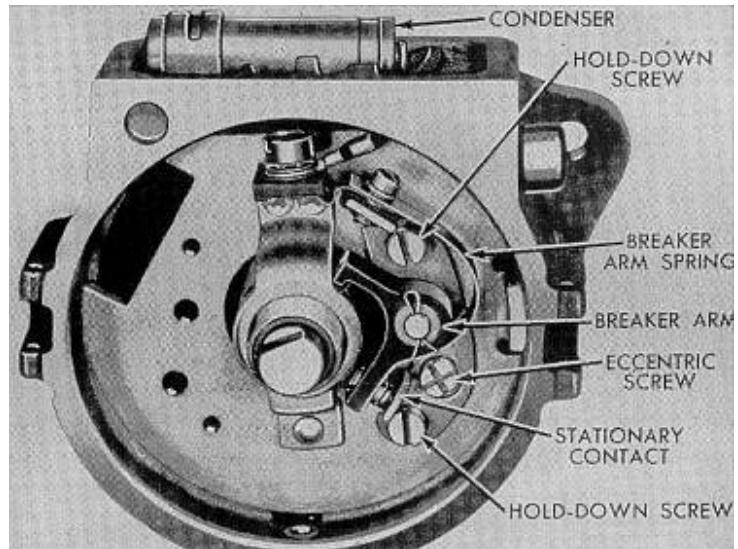
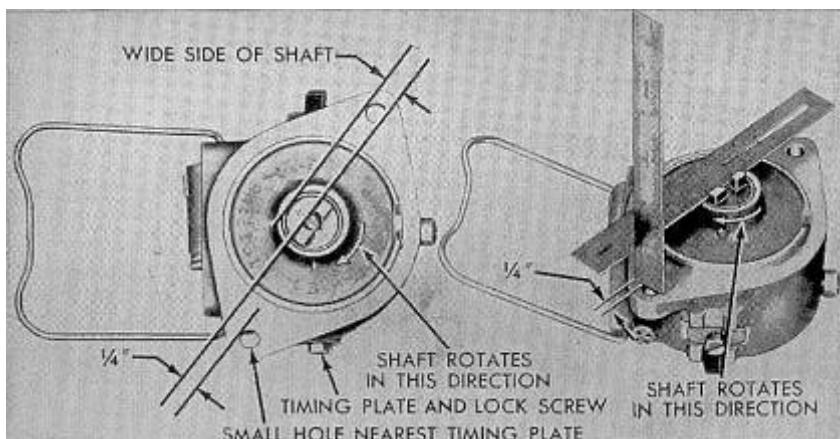

Fig. F044 - Distributor breaker contacts of Ford 8N12100 distributor used on models 2N, 9N, and 8N prior to tractor serial 263844.
Fig. F045 - Distributor basic timing adjustment on models 2N-9N and 8N prior to tractor serial 263844.
54. On 2N, 9N and 8N tractors prior to serial 263844 the Ford 9N12100 battery ignition distributor is mounted on the front face of the timing gear cover directly in line with camshaft. Refer to Fig. F044. In these installations the front end of the camshaft is slotted to receive a mating tang on the drive end of the distributor shaft. Spark timing at speeds above idling is controlled by a centrifugal governor built into the distributor. Full automatic spark advance is 24 crankshaft degrees, 12 distributor degrees @ 2000 engine rpm. Recommended contact gap is .015 or a dwell of 35-38 degrees. The Ford 91A12300 condenser is of .29-.32 mfd capacity and should have an insulation resistance of
55. TIMING TO ENGINE. Adjust breaker contacts to .015 gap by loosening the two hold-down screws (Fig. F044) and turning the eccentric screw. Place a scale against the tang on the wide side of the distributor shaft as shown in Fig. F045 then rotate the shaft until the scale is $\frac{1}{4}$ inch from the near edge of the small mounting hole as shown. With shaft in this position, the contacts should be just starting to open. Move the adjustment plate on the left side of the distributor down to advance the timing, up to retard the timing. If proper timing is not obtained on the first attempt, turn shaft backward $\frac{1}{2}$ turn to eliminate backlash, then repeat the check.
Loosen condenser lead and mounting screws and remove condenser. Pry out snap ring and remove breaker plate after lock screw is removed. Check distributor shaft fit in housing and breaker plate bracket, check condition of centrifugal advance mechanism, breaker contacts and condenser. Repair or renew parts where necessary and reassemble unit. Adjust breaker contact gap to .014-.016 and lubricate breaker point cam sparingly. See Fig. F044.
To set basic timing before reinstalling distributor unit, place a steel scale against shaft tang on wide side of shaft and rotate shaft until scale edge is 1/4 inch from top side of small mounting hole as shown in Fig. F045. When shaft is in that position, breaker contacts should start to open. Move timing plate and screw until contacts open properly.